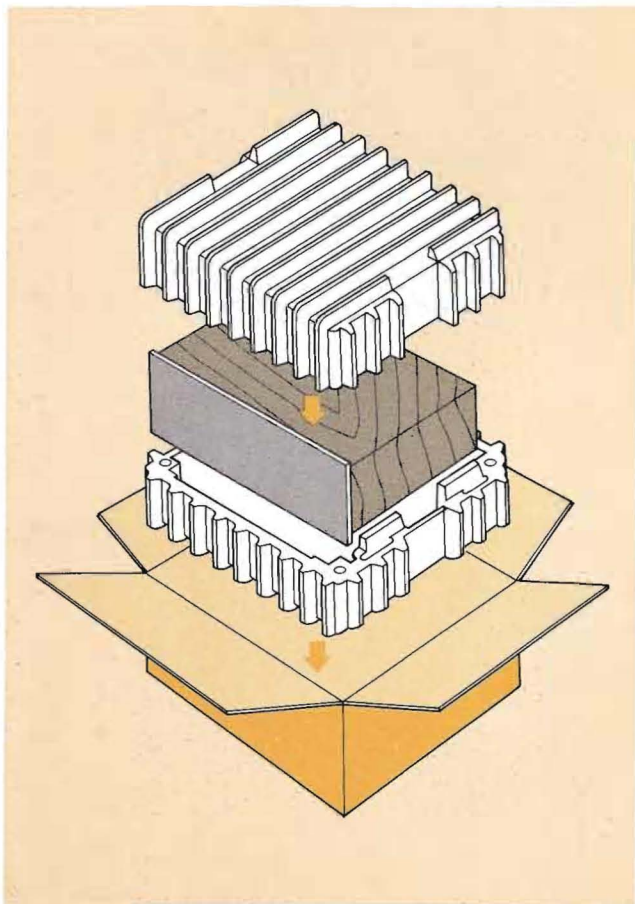

Figure 5. Packing Instructions
- c. Pack the unit carefully, using the original material as shown in Figure 5.